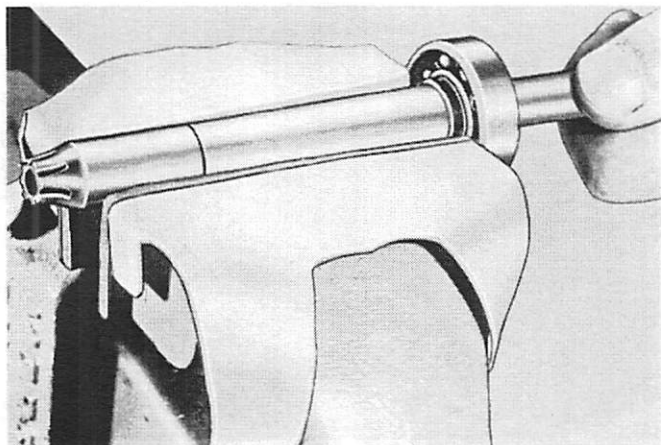

Figure 6. Removing Drive Shaft Ball Bearing
4. Remove water pump cover, wave washer and water pump face plate. (Figure 6)
6. Ball bearing can be removed from drive shaft by placing against open vise jaws and tapping on splined end of drive shaft with mallet. (Figure 6)